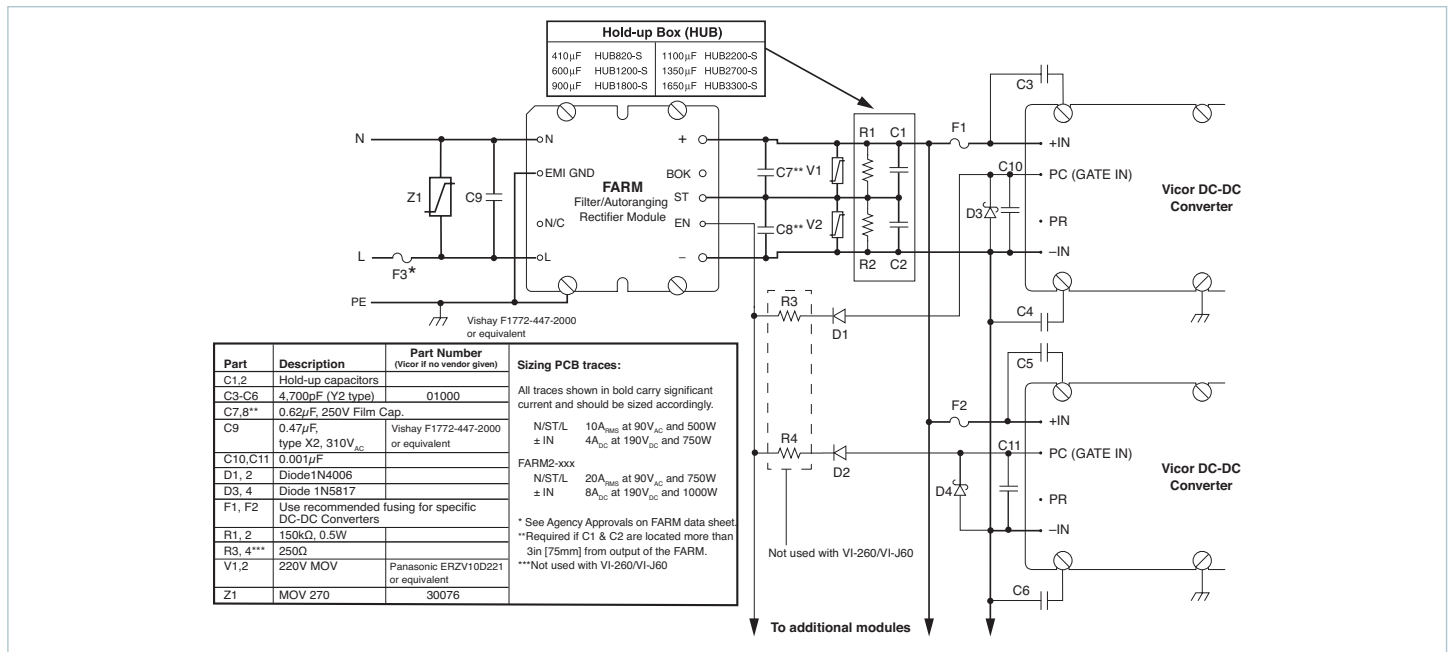

Figure 8.3 — Offline power supply configuration
Strap (ST) Pin: In addition to input and output power pin connections, it is necessary to connect the strap pin to the center junction of the series hold-up capacitors (C1, C2, Figure 8.3) for proper (autoranging) operation. Metal-oxide varistors, V1 and V2 provide capacitor protection. The bleeder resistors (R1, R2, Figure 8.3) discharge the hold-up capacitors when power is switched off. Capacitors C7 and C8 are recommended if the hold-up capacitors are located more than 3in [75mm] from the FARM output pins.
It should be noted that the series combination (C1, C2, Figure 8.3) requires each capacitor to be twice the calculated value, but the required voltage rating of each capacitor is reduced to 200V. Allowable ripple voltage on the bus (or ripple current in the capacitors) may define the capacitance requirement. Consideration should be given to converter ripple rejection and resulting output ripple voltage.